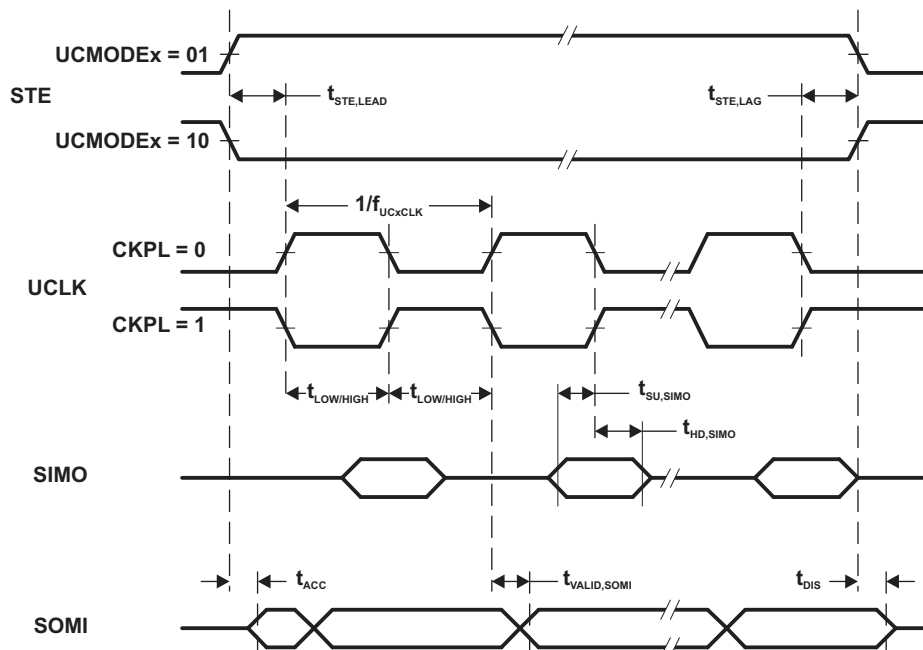
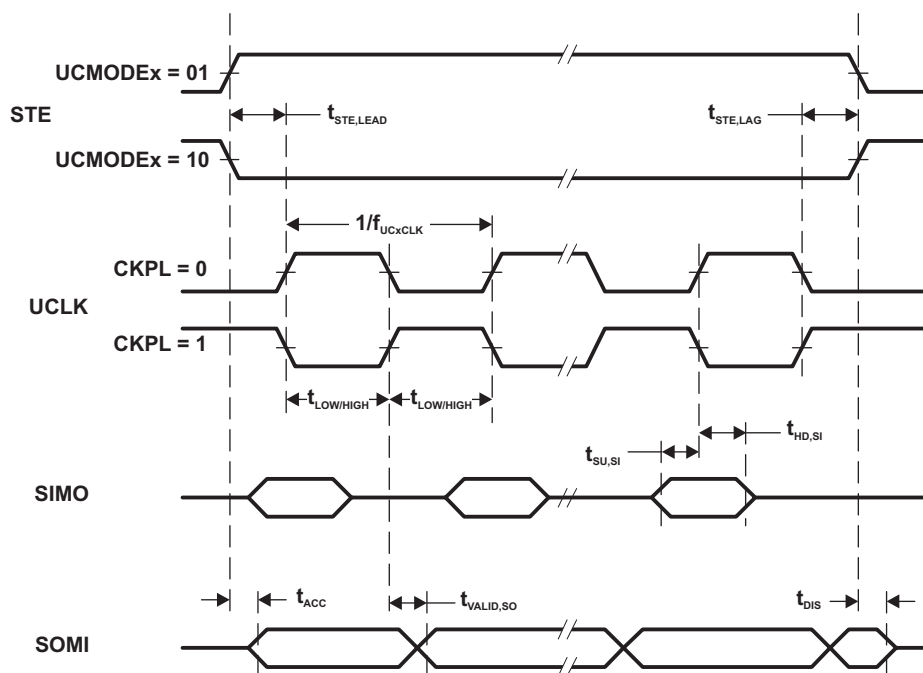

Figure 7. SPI Slave Mode, CKPH = 0
Figure 8. SPI Slave Mode, CKPH = 1
(2) Specifies the time to drive the next valid data to the SOMI output after the output changing UCLK clock edge. See the timing diagrams in Figure 7 and Figure 8.
(3) Specifies how long data on the SOMI output is valid after the output changing UCLK clock edge. See the timing diagrams in Figure 7 and Figure 8.